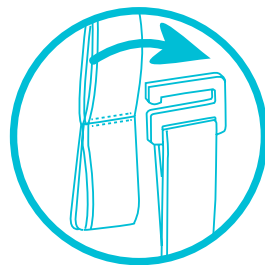

Fig. 3g
- To remove the platform: unhook the adjustment plate from the small strap (Fig. 3g).